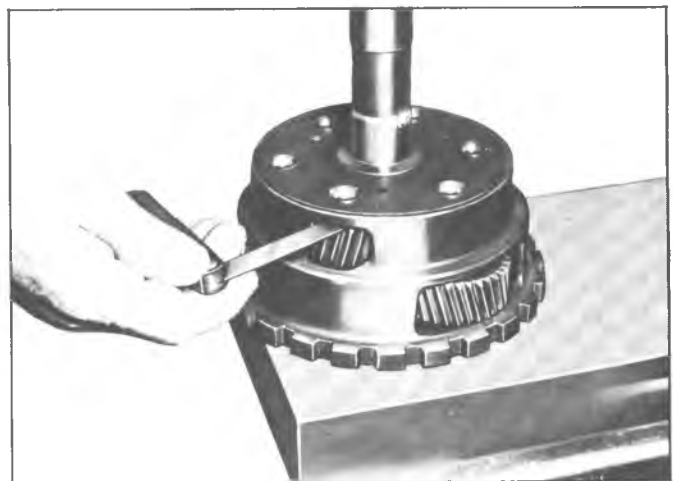

Fig. 23PG--Checking Planet Gear End Clearance
3. Check end clearance of planet gears. This clearance should be .006" - .030" (fig. 23PG).
24. Check end clearance of planet gears. This clearance should be .005" - .030" (fig. 23PG).